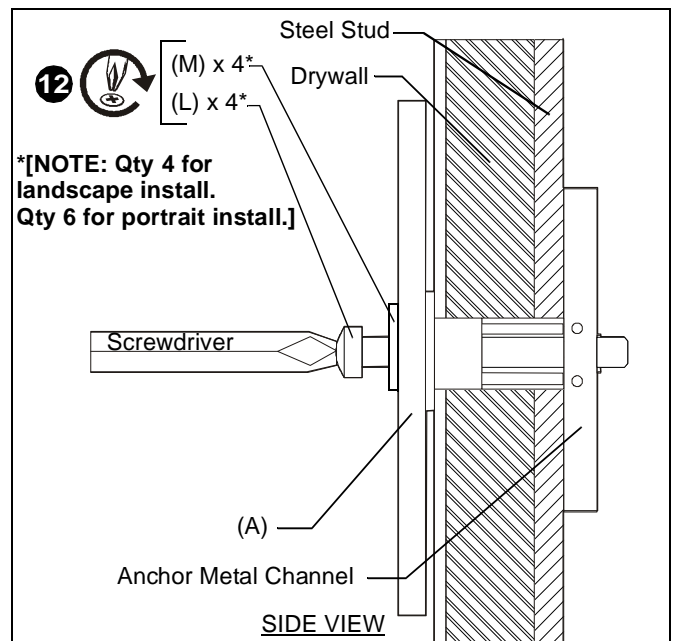

**Figure 7**
8. Snap off plastic straps on anchor at wall by pushing side to side, snapping off straps level with flange of plastic cap. (See Figure 7)